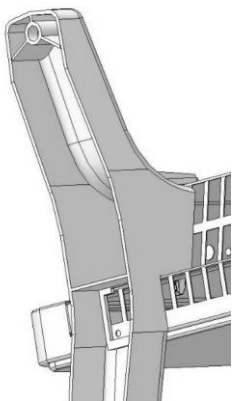

Figure 4.1
5.5 Please install supports as are shown in Figure 4.1 for operation of convector on a floor.